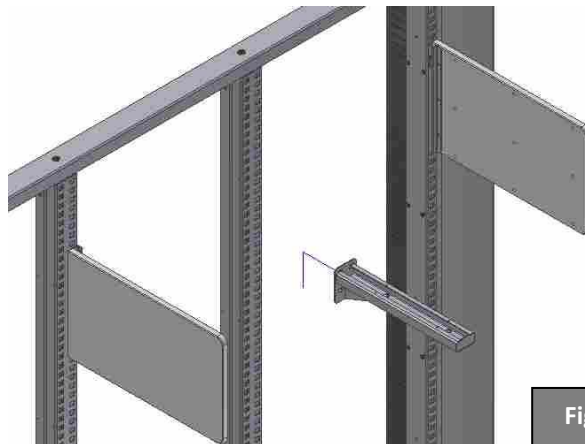

Fig 10
STEP 2.5 – Place the **hidden support**, using the hooks, on the middle **double frame bar** between the **agglomerate sides** of the **metal trays** (Fig. 10). Place it just below the **sides** (Fig. 11).